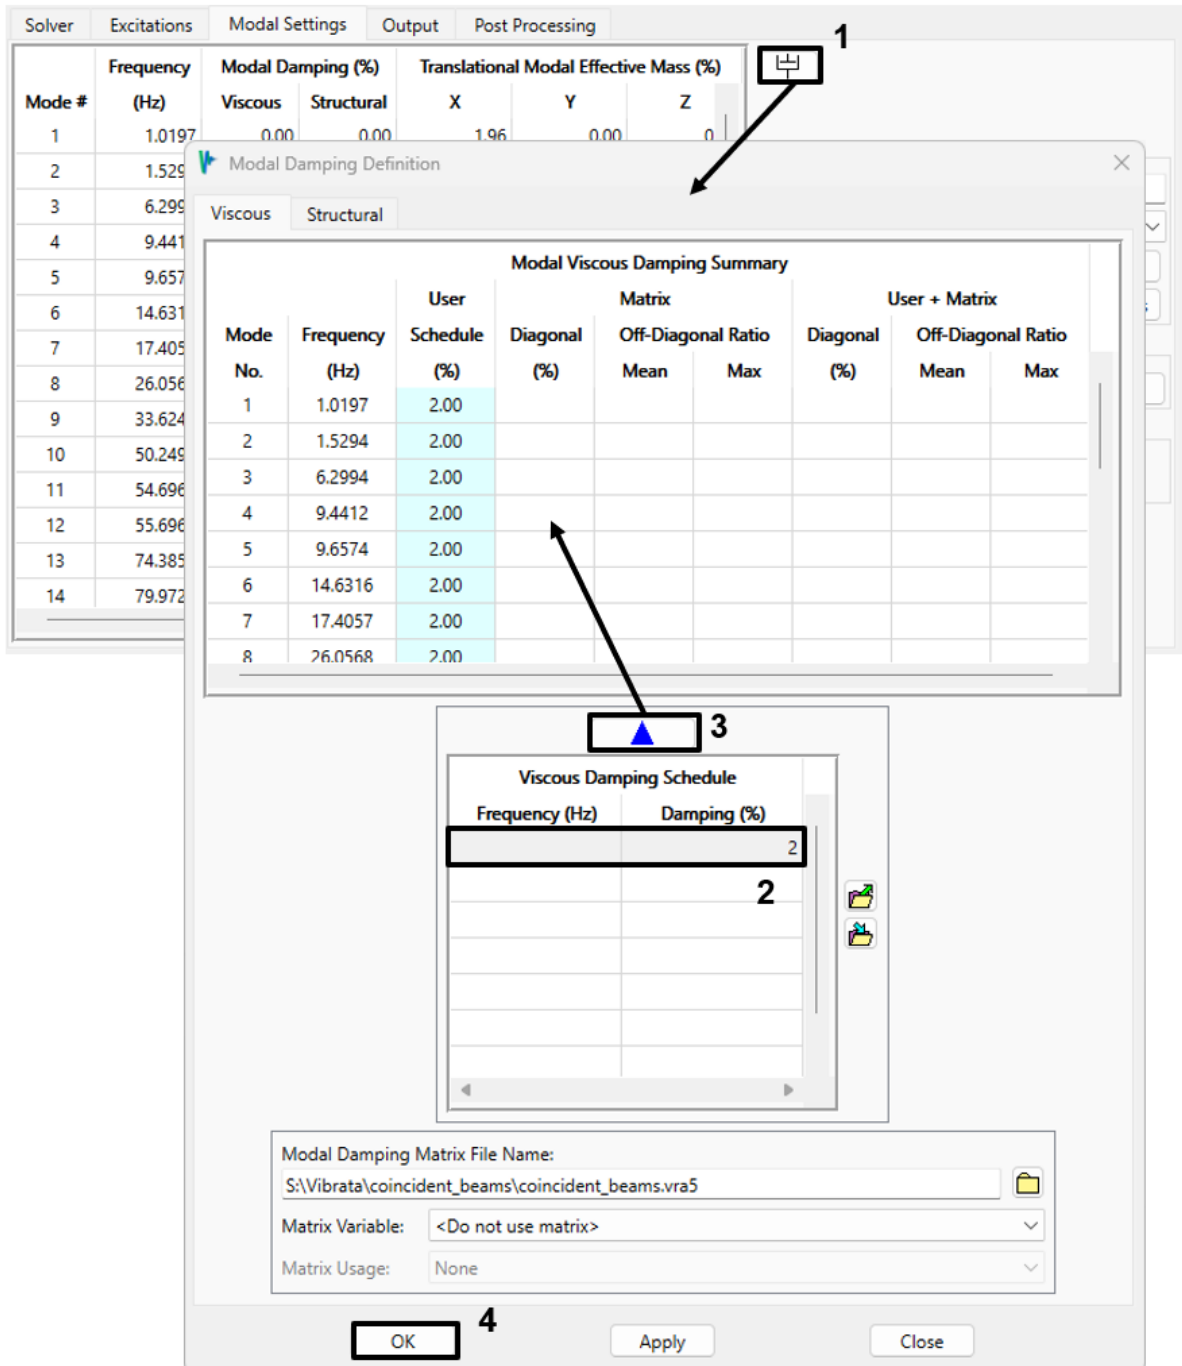

Figure 4-133. Set the viscous damping of the model to 2% for all modes.
- Go to the *Modal Settings* tab and open the *Modal Damping Definition* dialog. Use the damping schedule to set the viscous damping to 2% for all modes, as shown in Figure 4-133.